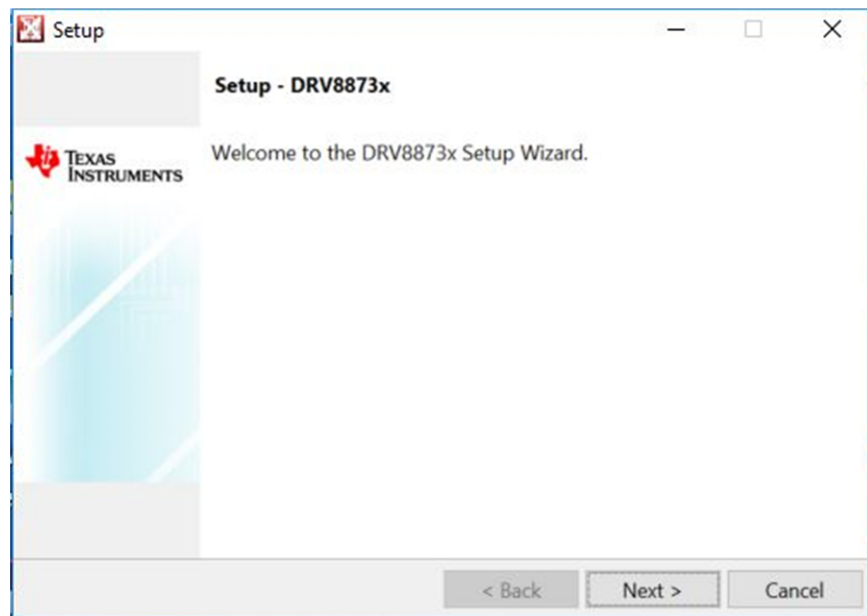

Figure 5. Setup DRV8873x Window
- Step 3. Click the *Next* button in the *Setup - DRV8873x* window (see Figure 5).